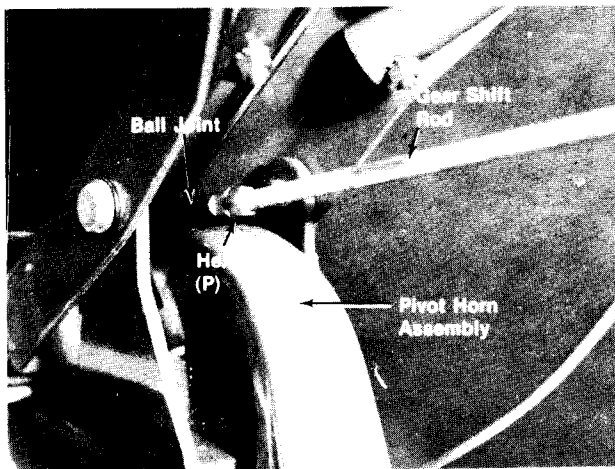

FIGURE 9.
- H. Thread hex jam nut (P) on one end of gear shift rod, then thread gear shift rod into ball joint on the top of pivot horn assembly, 10 to 12 complete turns, approximately $\frac{1}{2}$ inch. See figure 9.